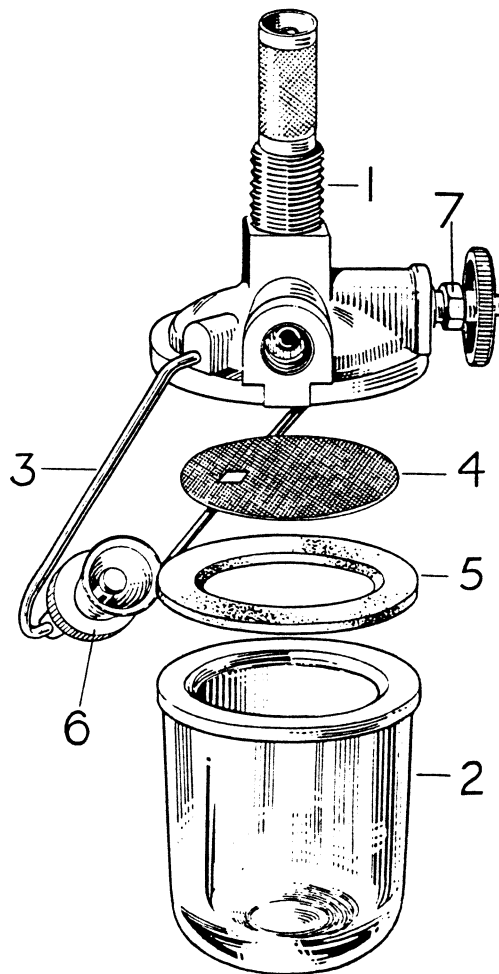
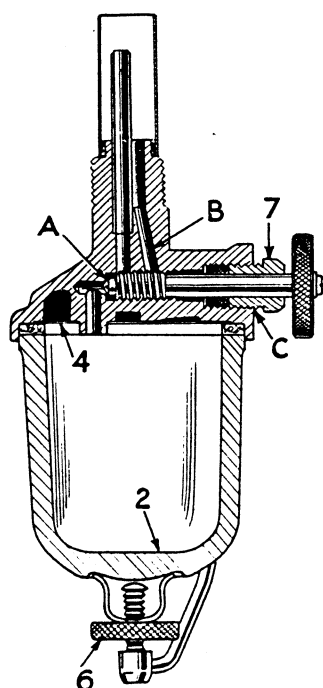

FIG. 5
FIG. 6
#### Petrol Valve and Sediment Bowl Assembly. Fig. 5.
The two way valve and sediment bowl assembly is shown in Fig. 5. It consists of a valve assembly (1) to which is attached a sediment bowl (2) by means of a retainer (3). Located between the bowl and the valve are a filter gauze (4) and a gasket (5). A cross-section through the valve and sediment bowl assembly is shown in Fig. 6.
#### Function of the Petrol Valve and Sediment Bowl. Fig. 6.